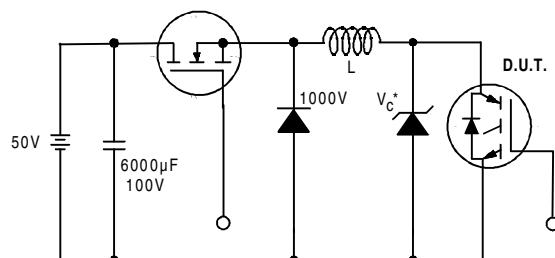

Figure 19. Clamped Inductive Load Test Circuit
- ② $V_{CC}=80\% (V_{CES})$, $V_{GE}=20V$, $L=10\mu H$, $R_G=23\Omega$ (figure 19)
- ③ Pulse width $\leq 80\mu s$; duty factor $\leq 0.1\%$.
- ④ Pulse width $5.0\mu s$, single shot.